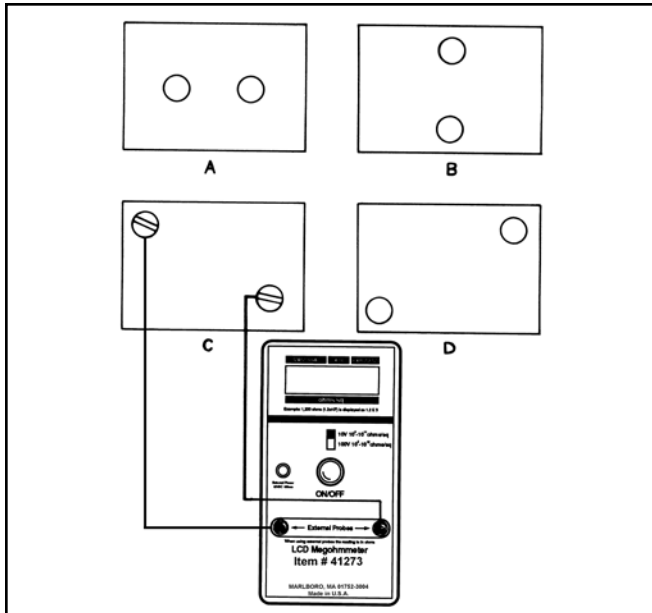

Figure 13. Electrode positions on surface of pad, RTT test.
A second type of test is RTT (Resistance, Point to Point). Here you measure the resistance from one 5 lb. electrode to another 5 lb. electrode; see electrode test positions A, B, C, and D in RTT test diagram, Figure 13. This is the test that is more typically used in the laboratory to determine Micastat® compliance with electrical specifications.
5. Place the electrodes in position A as shown in RTT test diagram (Fig. 13). Set the meter selector switch to 100V.